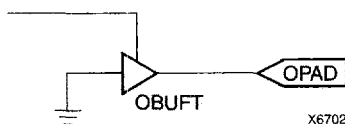

Figure 13: Open-Drain Output
An output can be configured as open-drain (open-collector) by placing an OBUFT symbol in a schematic or HDL code, then tying the 3-state pin (T) to the output signal, and the input pin (I) to Ground. (See Figure 13.)